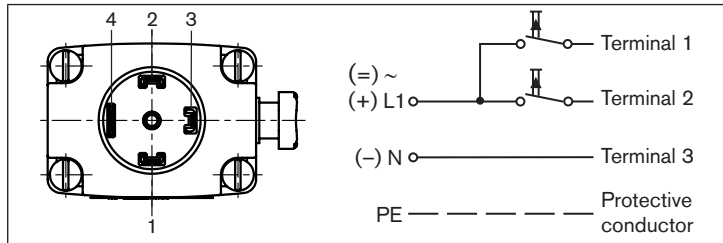

Fig. 4: Electrical connection pulse variant (CF 02)
- Connect as shown in “Fig. 4”. Pulse on terminal 1 closes the valve; pulse on terminal 2 opens the valve.